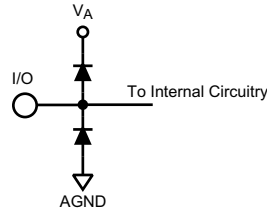

Figure 2.
- (1) The inputs are protected as shown below. Input voltage magnitudes above V_A or below GND will not damage this device, provided current is limited see Note 4 in the Absolute Maximum Ratings table. However, errors in the A/D conversion can occur if the input goes above 2.6V or below GND as described in the Operating Ratings section (See Figure 2).
- (2) To ensure accuracy, it is required that $|V_A - V_D| \leq 100\text{ mV}$ and separate bypass capacitors are used at each power supply pin.
- (3) With the test condition for $V_{REF} = +1.0V$ (2V_{P-P} differential input), the 14-bit LSB is 122.1 μV .
- (4) Typical figures are at $T_A = 25^\circ\text{C}$ and represent most likely parametric norms at the time of product characterization. The typical specifications are not verified.
- (5) I_{DR} is the current consumed by the switching of the output drivers and is primarily determined by load capacitance on the output pins, the supply voltage, V_{DR} , and the rate at which the outputs are switching (which is signal dependent). $I_{DR} = V_{DR}(C_0 \times f_0 + C_1 \times f_1 + \dots + C_{11} \times f_{11})$ where V_{DR} is the output driver power supply voltage, C_n is total capacitance on the output pin, and f_n is the average frequency at which that pin is toggling.